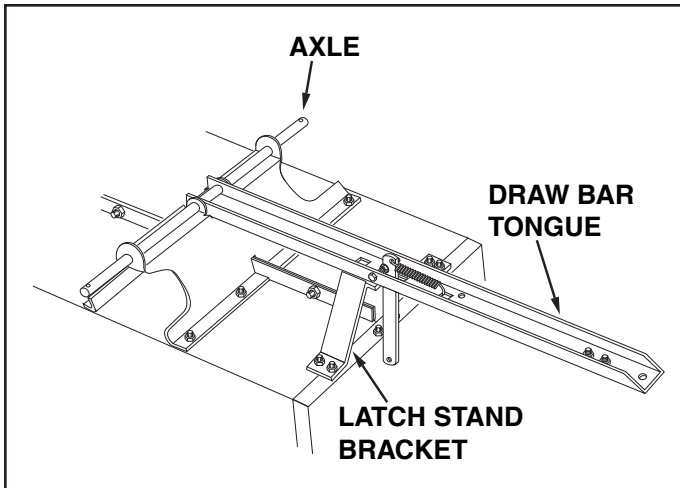

FIGURE 4
7. Place the drawbar tongue onto the axle and latch stand bracket then slide the axle through the wheel support and drawbar tongue. See figure 4.